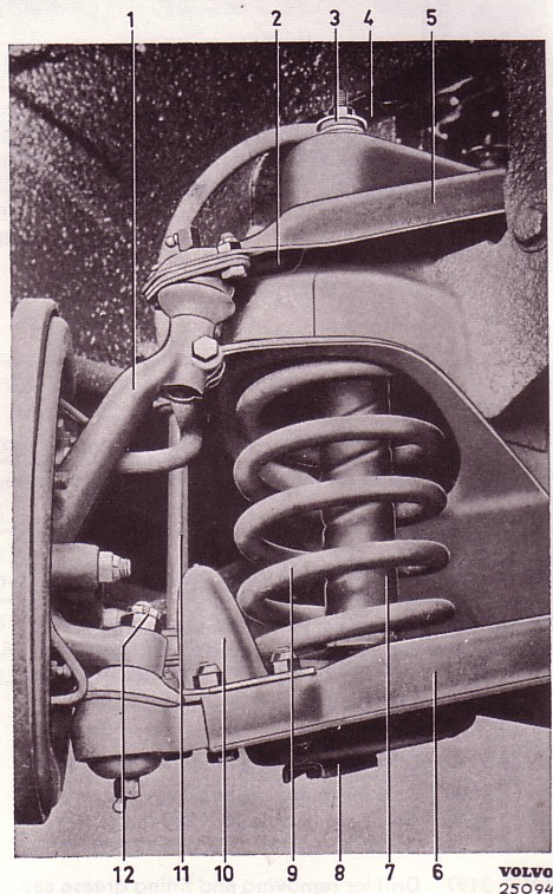
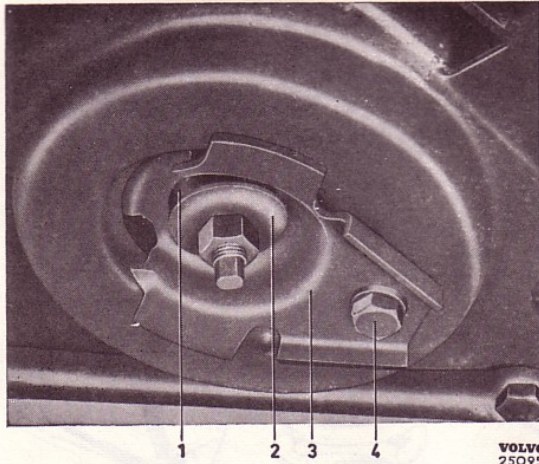

Fig. 1. Front spring and shock absorber
Fig. 2. Lower attachment of front shock absorber
4. Remove the shock absorber nuts and washers and take off the outer rubber bushes (3, Fig. 1 and 1, Fig. 2). Remove the bolt (4, Fig. 2) for the attaching plate (3) and pull this together with the shock absorber downwards.
6. Disconnect the stabilizer from the lower wishbone. Remove the nut (12, Fig. 1) for the lower ball joint.